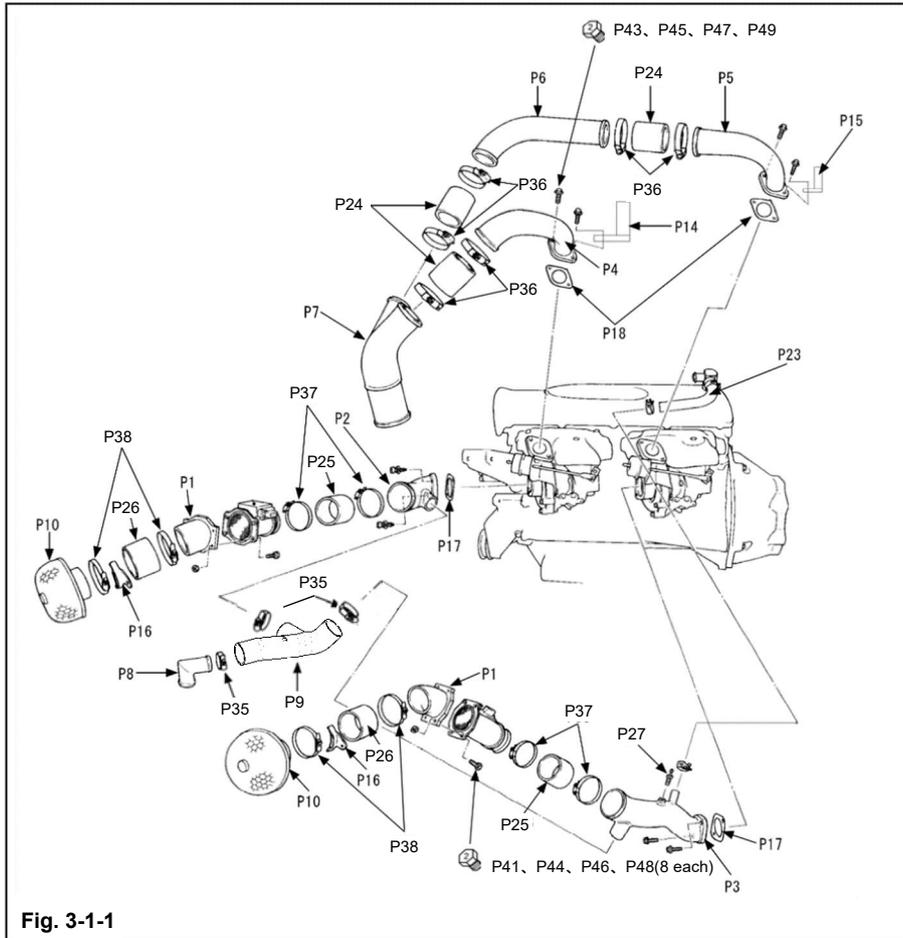

Fig. 3-1-1
(1) Install the hose nipple  $\phi 6$  to the rear suction pipe, and then connect the rear suction hose. When installing the hose nipple, wrap commercially available sealing tape around the screw to prevent air leakage. (Fig.3-1-1, Fig.3-1-2)
(2) Connect the rear suction pipe to the rear side turbocharger assembly. (Fig.3-1-1)
- (4) Connect the front suction pipe to the recirculation hose.
- (5) Connect the front suction pipe to the front side turbocharger assembly. (Fig.3-1-1)
- (6) Tighten the hose band that was temporarily connected in 3-1(3).
- (7) Connect recirculation pipe No.4 and recirculation hose to form the recirculation piping. (Fig.3-1-1)
- (1) Connect the rear chamber pipe No.1 to the rear side turbocharger assembly. At this time, be sure to tighten the rear air pipe bracket together. (Fig.3-1-1)
(4) Connect the front chamber pipe to the front side turbocharger assembly. At this time, be sure to tighten the front air pipe bracket together. (Fig.3-1-1, Fig.3-2-2)
(7) Connect the rear chamber pipe No.2 and intercooler inlet pipe. (Fig.3-1-1)
(1) Install the air flow meter adaptor, air cleaner to the air flow meter. (Fig.3-1-1)
(2) Connect the air cleaner installed in 3-3(1) to the front suction pipe and rear suction pipe. (Fig.3-1-1)
(3) Fix the front suction pipe and rear suction pipe.
(Fig.3-1-1, Fig.3-3-1)